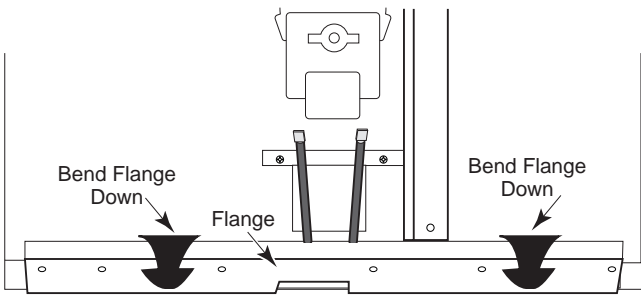

Figure 8
8. Refer to Figure 8 and bend the bottom flange down as far as possible so that you can pull the bake element out from under the unit.